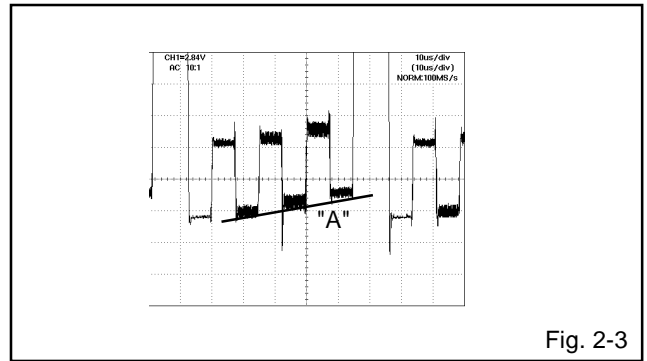

Fig. 2-3
12. Press the VOL. UP/DOWN button on the remote control until the section "A" becomes as straight line. **(Refer to Fig. 2-3)**